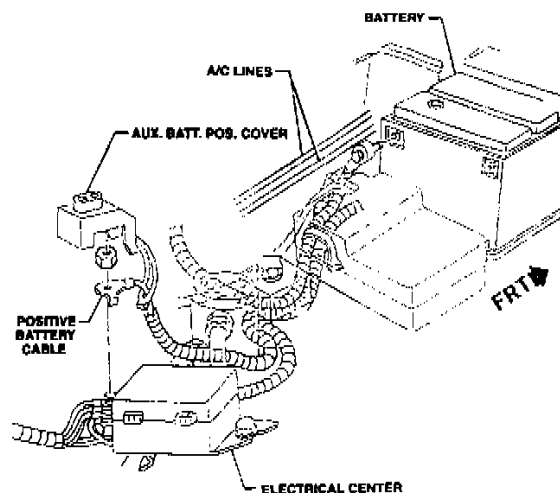

FIGURE 1
2. Remove "AUX. BATT. POS. COVER" (Figure 1) from electrical center stud. Electrical center and stud is located on top of right hand wheelhouse, just ahead of front of dash.
3. Remove stud nut (not to be reinstalled) and positive battery cable from stud (Figure 1).